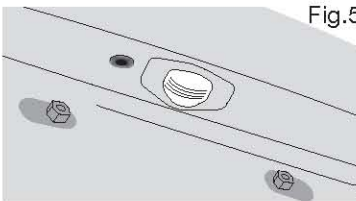
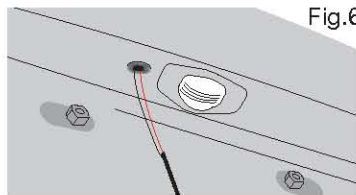

Fig.5
Fig.6
7. After you have drilled a hole, insert the supplied grommet (Fig.5), then pass the power cable through the grommet into the vehicle (Fig.6). You must use the grommet to prevent the metal edge of the hole from cutting the power cable.